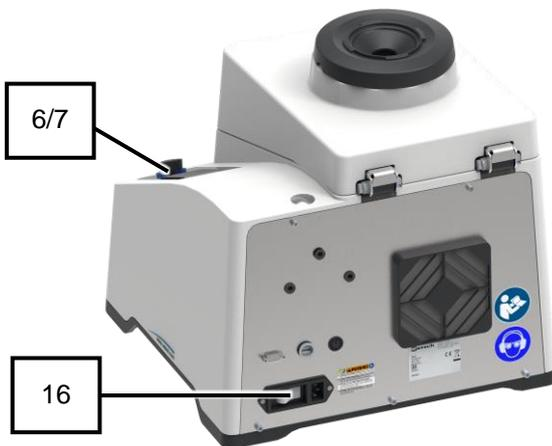

Fig. 18: Main switch at rear of device
- ➔ The touch display (6) is activated and the background of the control dial (7) briefly lights up in blue.
2. Press  on the touch display (6) to unlock the device hood (2) (Fig. 18).
3. Open the device hood (2).
- ➔ The device hood (2) is open and the interior (10) can be accessed (Fig. 18).